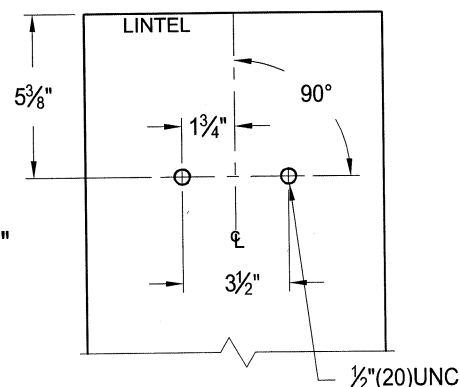

fig. 3
- Measure and mark horizontal line  $5 \frac{3}{8}"$  down from lintel perpendicular to plumb line (fig. 3).